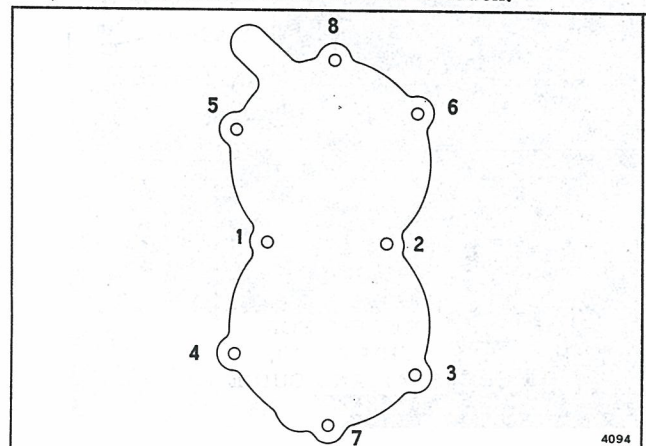

Figure 5-33. Cylinder Head Torquing Sequence
- f. Install cylinder head, using a new gasket. Tighten cylinder head screws to torque specified in Section 2, following the sequence shown in Figure 5-33.
a. Check exhaust housing alignment as described in Section 6. If removed, install shift rod boot and plate in exhaust housing. Oil water tube and install push nut, washer, and "O" ring to upper end. Slide water tube through opening in boot and position upper end in exhaust housing flange. See Figure 5-33.